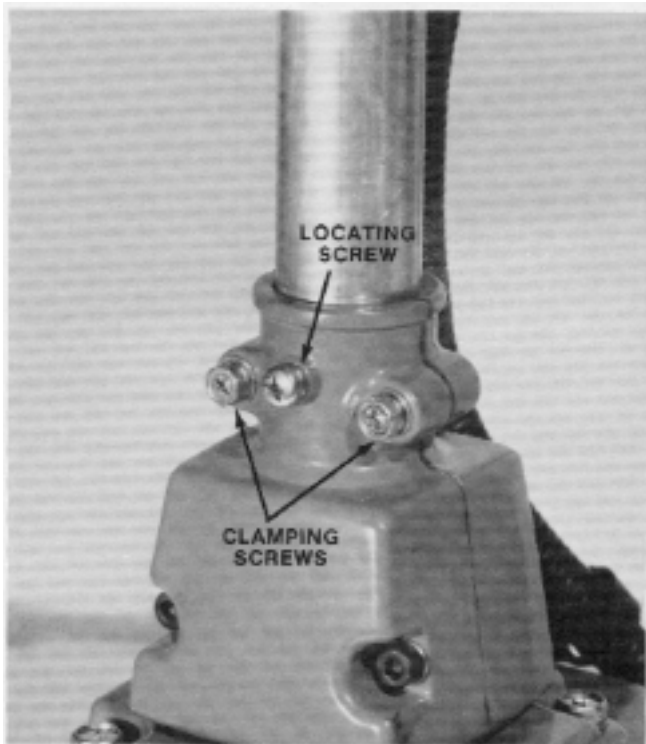

Figure 95
5. Loosen the locating screw and the clamping screws. See Fig. 95.